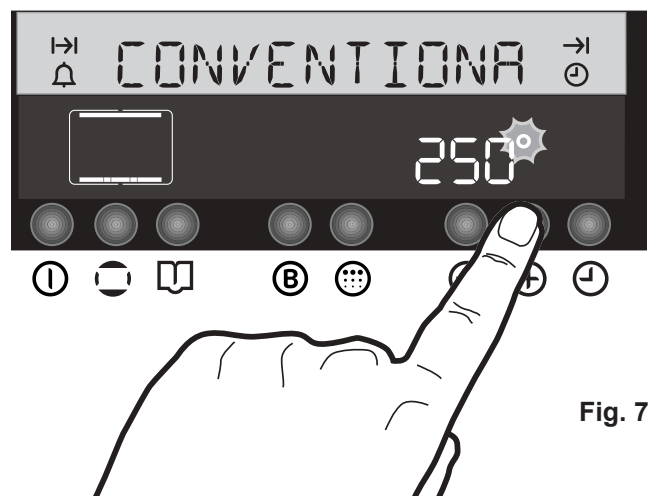

Fig. 7
4. Set the temperature to 250°C using button  (Fig. 7).